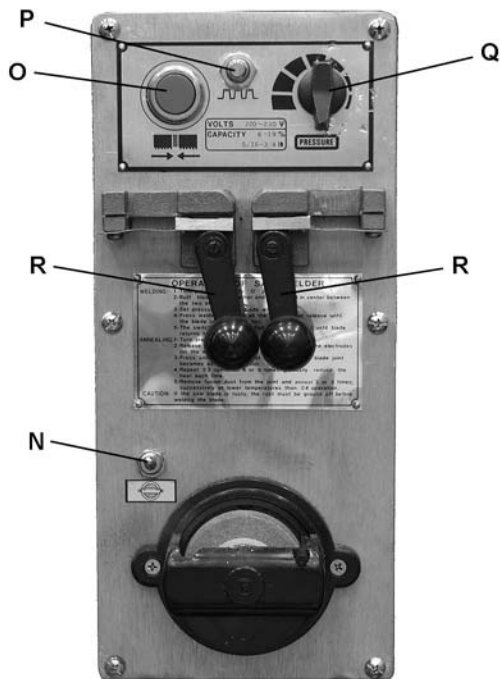

Figure 4
**Grinder Toggle Switch (N, Figure 4)** – located on blade welder panel. Flip switch up to start grinder; flip down to stop grinder.
**Weld Button (O, Figure 4)** – located on blade welder panel. Press and hold to start welding. Shuts off automatically when weld is done. Release when weld is completed.
**Anneal Button (P, Figure 4)** – located on blade welder panel. Press and hold to anneal blade, release to stop.
**Blade Clamp Pressure Knob (Q, Figure 4)** – located on blade welder panel. Sets pressure for different width blades.
**Blade Clamps (R, Figure 4)** – located on blade welder panel. DOWN position allows insertion of blade into clamp. UP position locks blade.